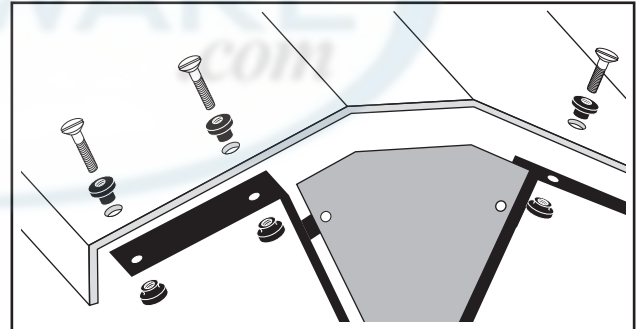

Figure 6. Plexiglas Canopy
2. Remove the screws that hold the canopy on as depicted in Figure 6.